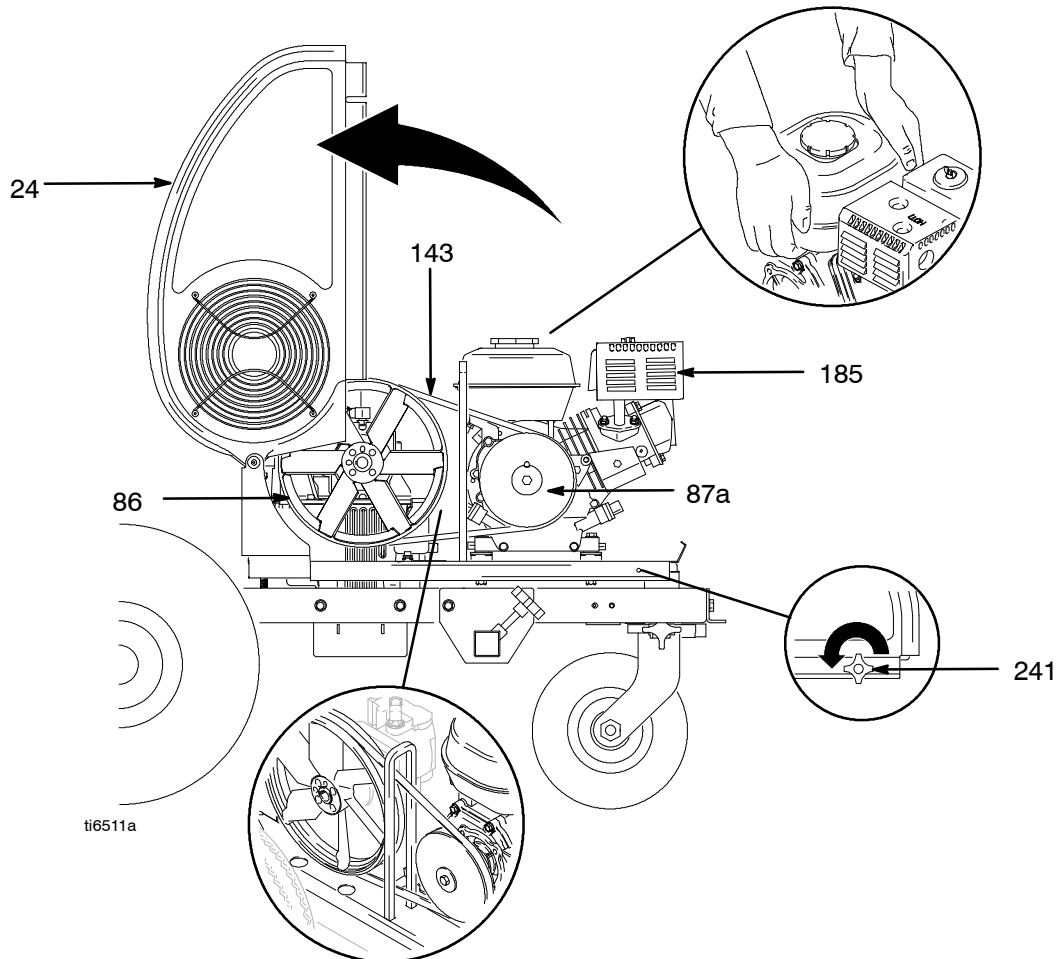

Fig. 3
2. Fig. 3. Loosen belt guard knob (241).
3. Rotate belt guard (24) up.
4. Lift engine (185) up to remove tension on belt (143).
5. Remove belt from fan pulley (86) and fan pulley (87a).